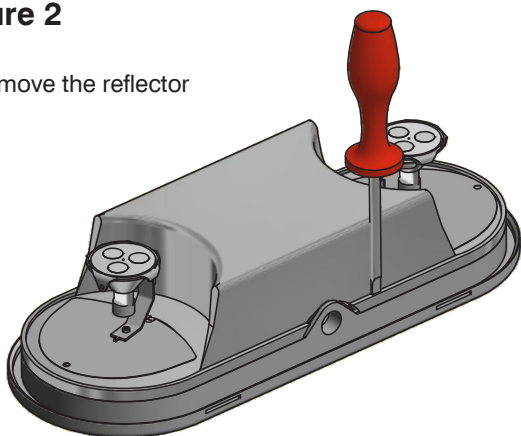

Figure 5
7. Reconnect the battery paying attention to the polarity as shown (Figure 5). *Only applicable to battery unit.*